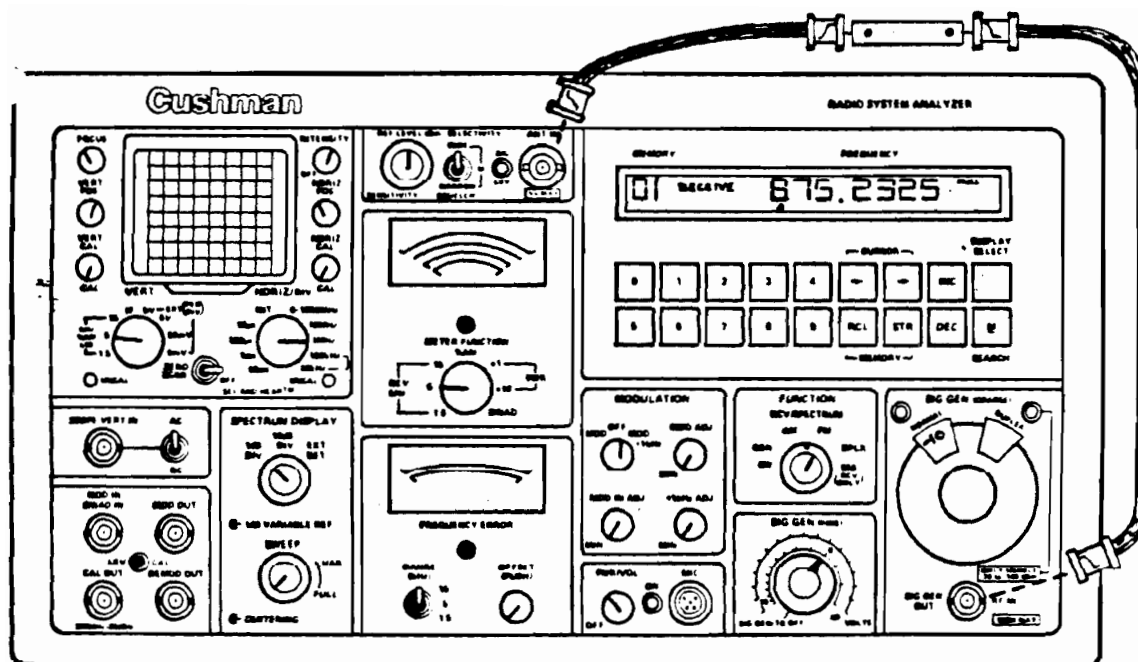

Figure 4-9. Swept Frequency Calibration Set-up
- e. Place a double shielded coaxial cable (RG223 or RG142) on the CE-6000 SIG GEN OUT/RF IN connector. Place another coaxial cable on the ANT IN connector. Connect the two cables through a BNC barrel adapter as shown in Figure 4-9 for Swept Frequency Calibration.